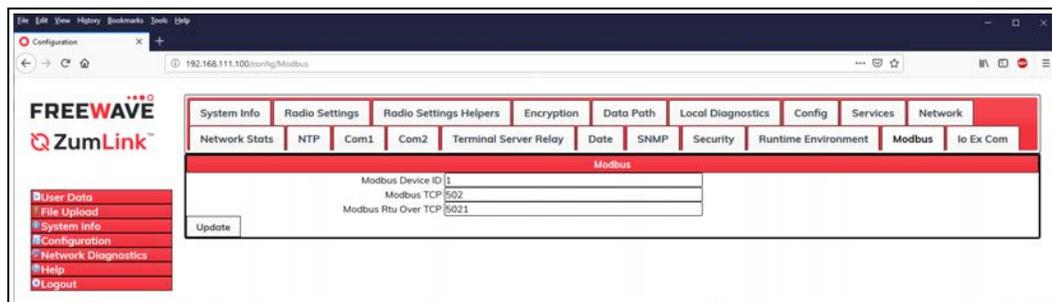

Figure 143: Modbus window
6. Click the **Modbus** tab to access the **Modbus** parameters. Figure 143